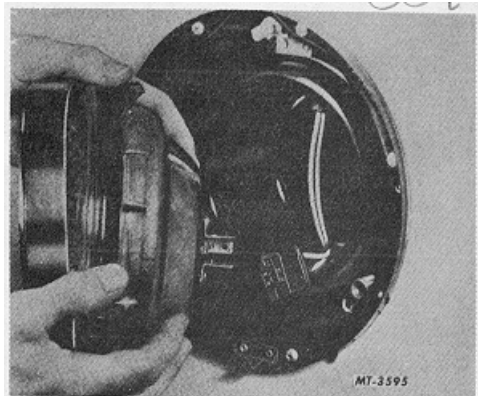

Fig. 4
5. Disconnect the three way connector, Fig. 4, at the rear. Hold the connector firmly to avoid damage to the wiring. Remove the headlight retainer from the sealed beam unit.